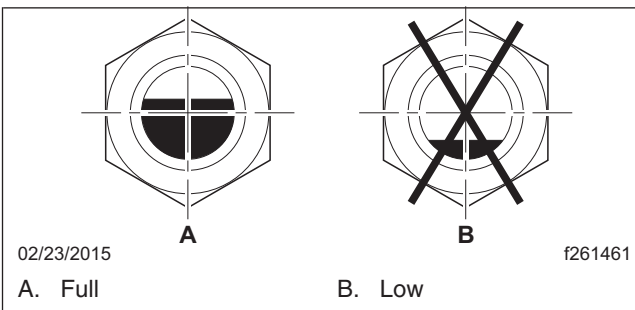

Fig. 8, Transmission Fluid Level Sight Glass
2. Check the fluid level in the sight glass. When the fluid level is at or above 3/4 of the sight glass, then it is at or above the minimum fill level. See Fig. 8.